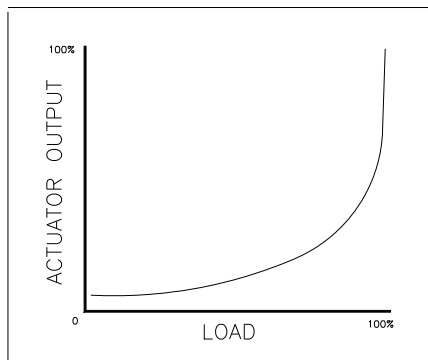
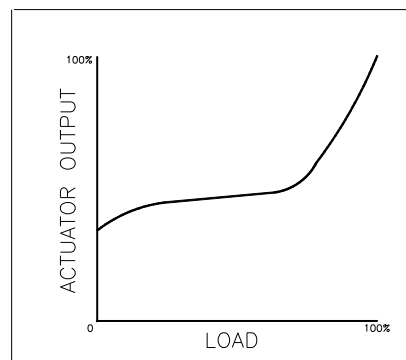

Figure 9. Non-Linear Valve Power
Figure 10. Sample Engine Plot
The butterfly valve change in a gas engine is not linear to the engine output (Figure 9). Diesel engine fuel controls are nearly linear (Figure 10). In this case, you use the dynamics map only to accommodate non linear conditions caused by the fuel system or by the linkage between the actuator and the rack. For the gain settings you do not use, set the gain breakpoint at 100%.
In Figure 10, the valve position falls on a curve, but with the four slope segments you can create a rough expression of the curve, see Figure 12.
- 3 Load the engine with a number of load steps as practical. If necessary adjust the engine stability at each load step with Gain A. Write the engine load settings, gain A, and the actuator output in the given table. Do not change the stability or compensation after the first load step. If you do repeat step (2).
- 4 Make a plot of the system with the actuator output and the load steps as listed in the table. See example of a plot in Figure 10.
- 5 Set Gain A to the value in step (2) with no load.